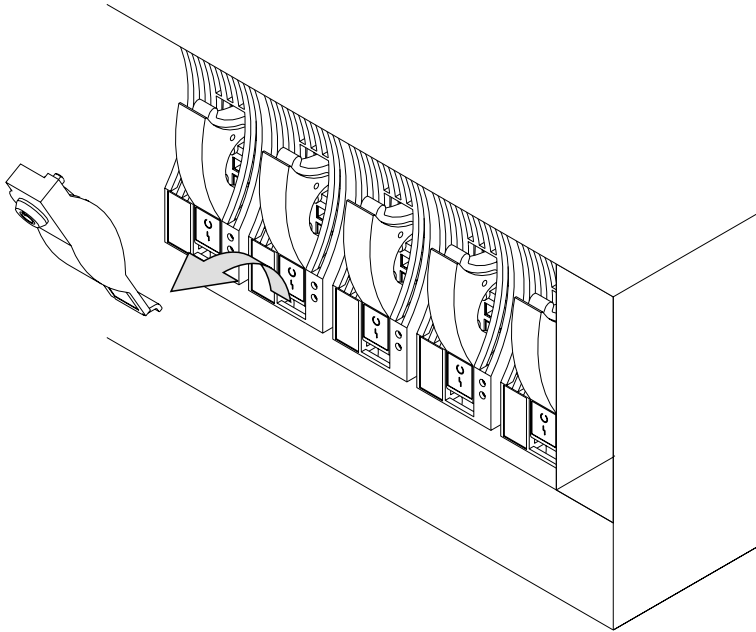

Figure 75. Removing the Lock from a Module (2)
- Step 12. Refer to Figure 75.